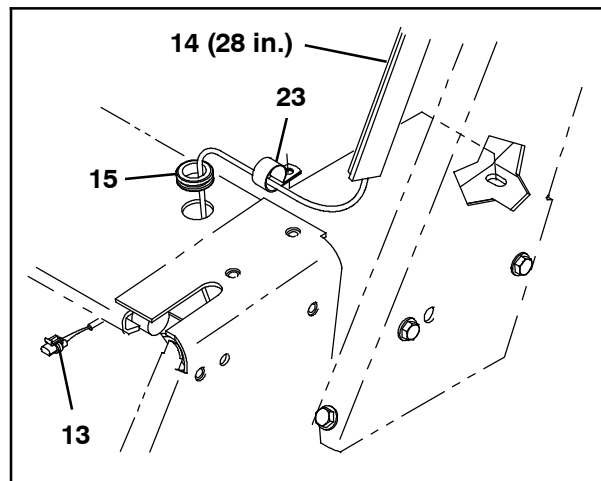

FIG. 10
14. Insert the grommet (15) into the hole in the operator compartment. (Fig. 10 / Fig. 11)
16. Route the alarm / strobe harness (13) through the sections of vinyl duct (14) and down to the front of the operator compartment. (Fig. 7 / Fig. 8 / Fig. 9 / Fig. 10 / Fig. 11)
17. Install the clamp (23) onto the alarm / strobe harness (13) and use the M12 hex screw and flat washer to secure the harness to the overhead guard channel. (Fig. 10 / Fig. 11)